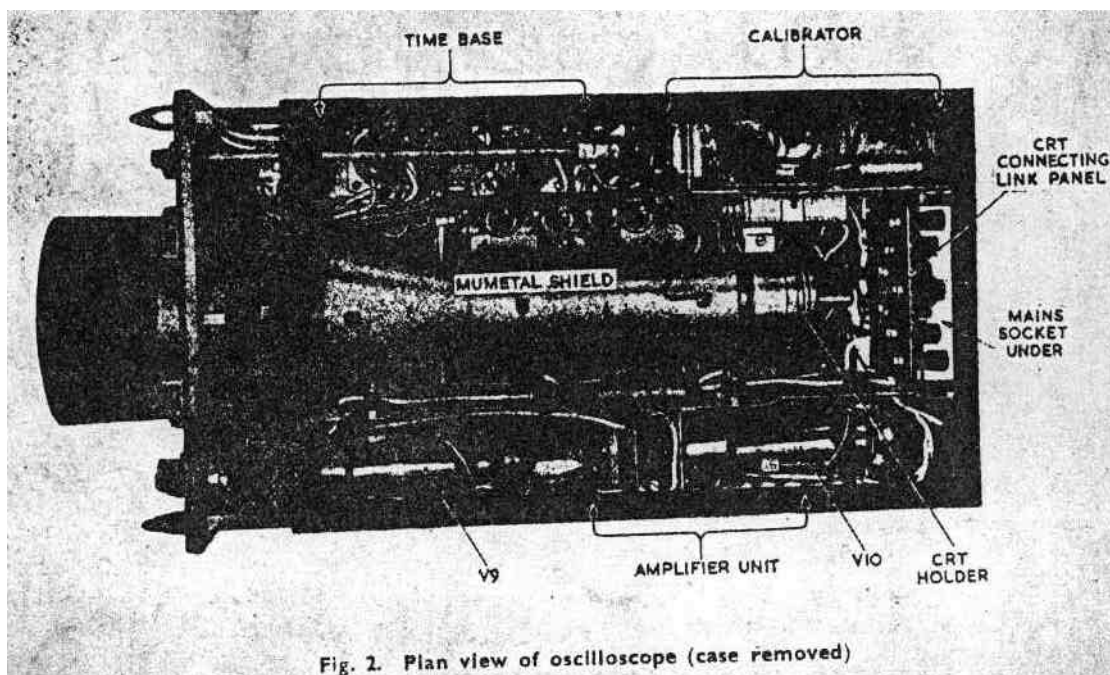

Fig. 2. Plan view of oscilloscope (case removed)
8. The complete circuit diagram of the oscilloscope Type 13A is shown in fig. 9. It will be seen that the circuit comprises four distinct units interconnected by suitable switching arrangements. The units are the power unit, the cathode-ray tube and its associated network on the front panel, the timebase and calibrator, and the amplifier unit. These units form separate assemblies within the oscilloscope, as can be seen from the photographs in fig. 2 to 4. All the controls and most of the cathode-ray tube network are mounted on the front panel; the power unit forms the base of the instrument, and the amplifier and timebase/calibrator assemblies are on either side of the cathode-ray tube itself.